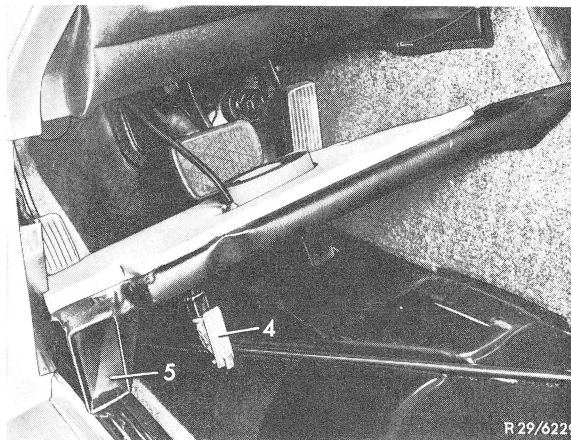

Fig. 5
11 Pull cable for legroom light through cover, insert plug and force legroom light (4) into cover (Fig. 5).